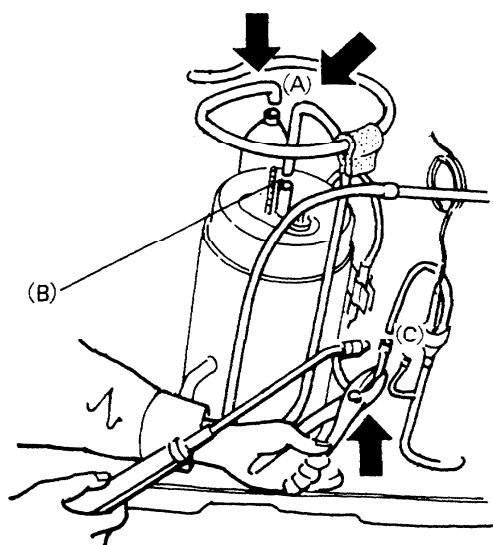

Fig. D-20
4. Hold tubing securely with pliers and braze connections (A) (B) and (C) carefully with torch Fig. D-20